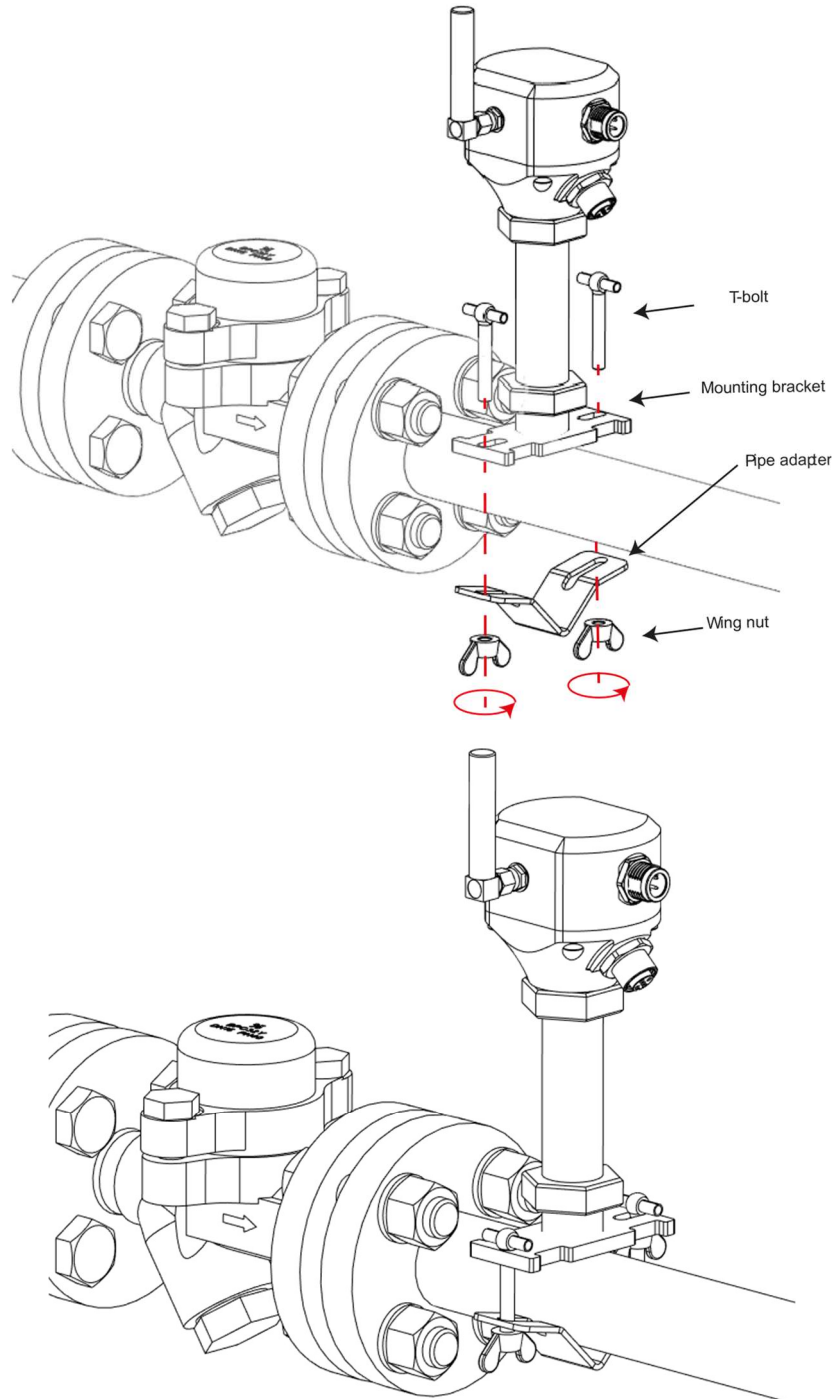

Figure 8.- LeakSense/TempSense module installation with “quick mounting” method
4. Insert the "T" bolt through the slots of the mounting bracket. Position the pipe adapter (MEP-0049) onto the bolts and secure it by tightening the wing nuts, as can be shown in Figure 8.